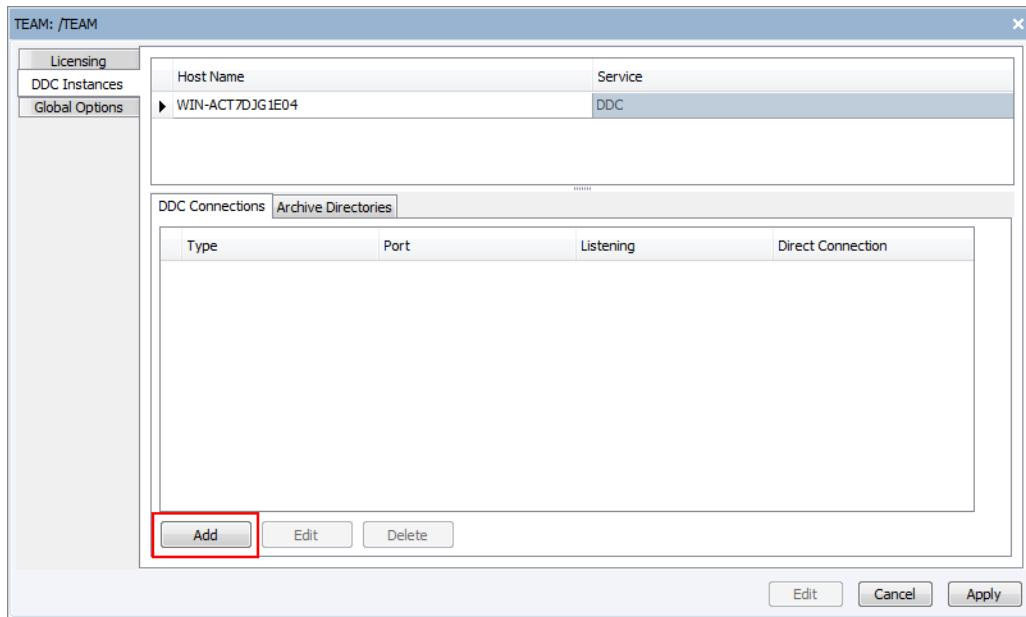

Figure 165 Add DDC Listening Connection
Step 3. Select **Edit** in the lower right corner and then **Add** under the **DDC Connections** tab, as shown in *Figure 165*.